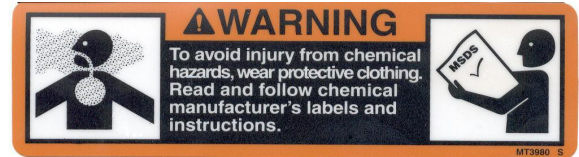
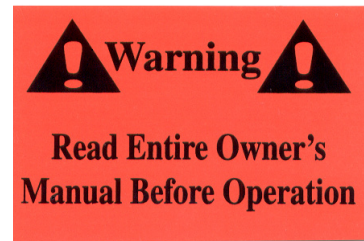

Figure 1: Chemical Warning Decal(# DEMENT3980)
Figure 2: Owner's Manual Decal(# DE39)
- A chemical warning decal and an owner's manual warning decal are located on the applicator's tank. Be aware of their location. See Figure 1 and Figure 2.